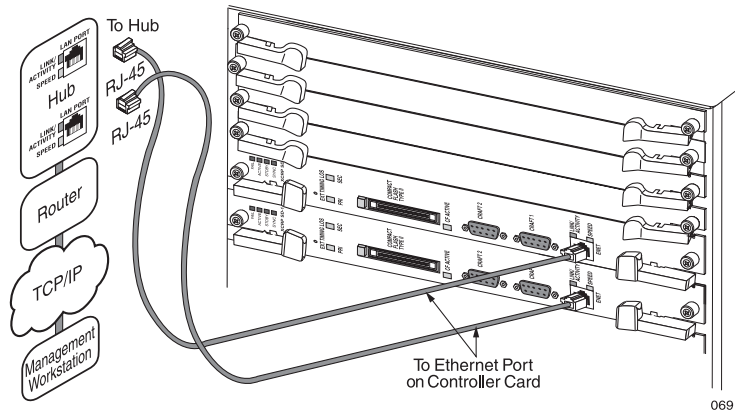

Figure 24 Connections for a Management Workstation
2. Connect and route the management access cables, depending on the type of management access you have selected. See Figure 24 for connecting a
- a Management workstation; see Figure 24.
A management workstation is connected to the SmartEdge 400 router using the Ethernet port on the front of a controller card. This type of connection provides access to the SmartEdge OS command-line interface (CLI) after you have configured the port. Figure 24 shows the connections to the Ethernet ports on a pair of controller cards.